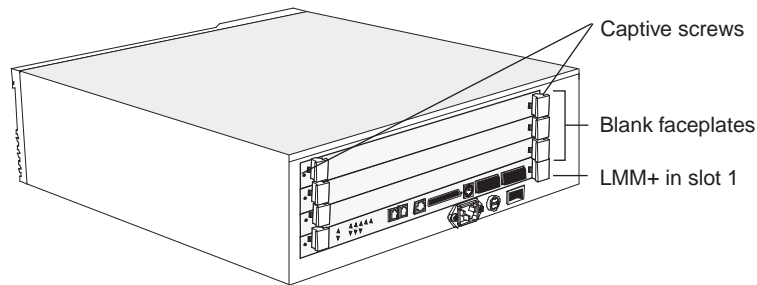

Figure 1 LANplex 6004 with Blank Faceplates
- 3 Unscrew the securing screws on the module's faceplate. See Figure 1.